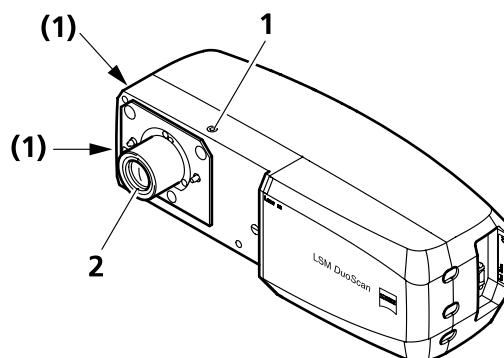

Fig. 1-19 Fastening screws and connections on LSM DuoScan
- Use the three fastening screws (Fig. 1-19/1) to attach or detach the LSM DuoScan to or from the microscope stand.